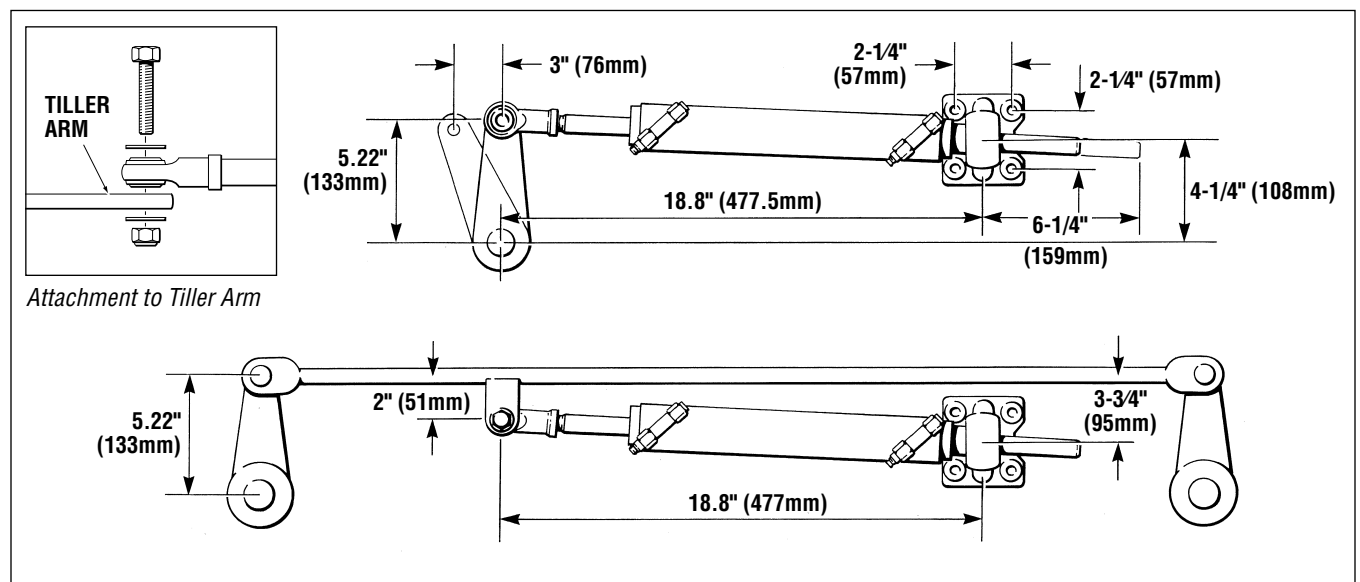

Figure 3.
4. Extend cylinder rod to arrive at 18.8" (477.5 mm) from center of rod end ball joint hole to the center of the mounting foot (as shown in figure 3 below).